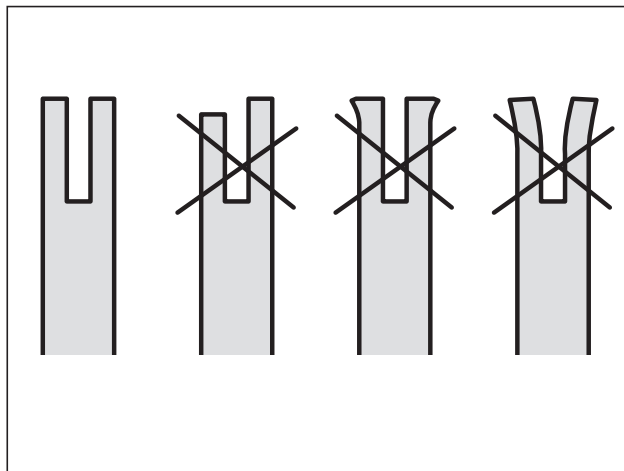

Fig. 32
5. Check the guide bar 'rail' for wear: Hold a ruler (straight edge) against the side of the guide bar and 'cutter side plates'. If there is a gap between the ruler and guide bar the guide bar 'rail' is normal. If there is no gap (ruler flush against the side of the guide bar) the guide bar 'rail' is worn and needs to be replaced with a new one of the same type (Fig.32).